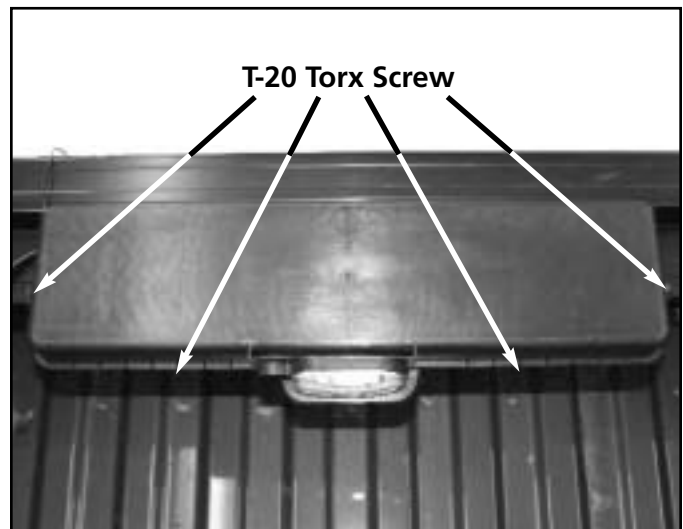

Figure S-26
3. Remove the four (4) T-20 Torx motor cover retaining screws. See figure S-26.
11. Install the four (4) T-20 Torx screws onto the motor cover and fasten. Refer back to figure S-26.